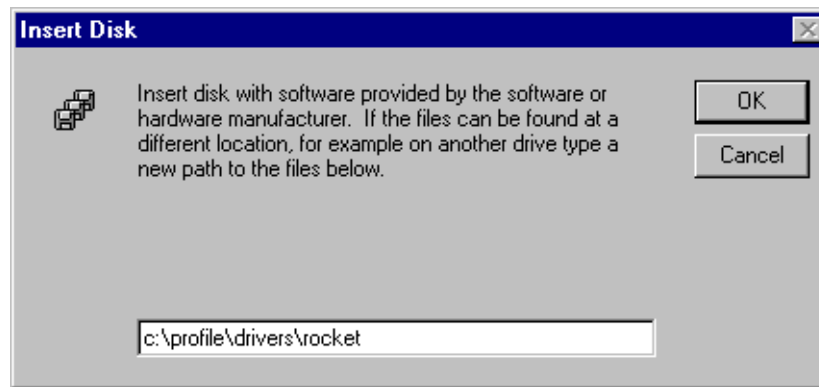

Figure 1. Type the path to the device driver files
6. When you are prompted, type **c:\profile\drivers\rocket** as the path of the directory containing the driver files (see Figure 1) and click **OK**.